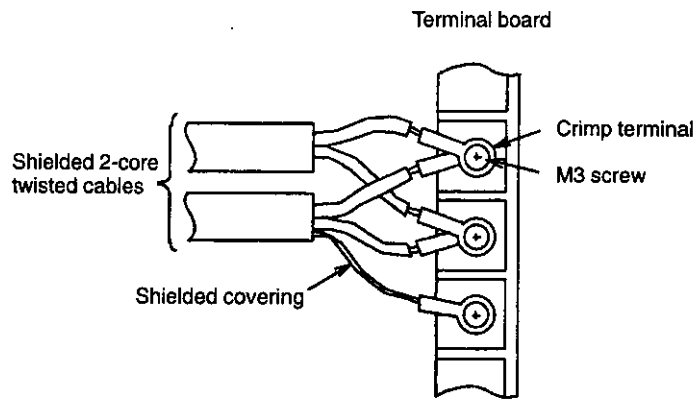

Figure 6.6 Wiring to the Terminal Board
- j) Use an M3 screw to secure the crimp terminal to the terminal board for all wiring as shown in *Figure 6.6*. Where two, 2-core twisted cables are connected to J2078 Modems, (i.e., other than at the ones at the ends) overlap the crimp terminals for the two pairs and secure the overlapped terminals with the screw.